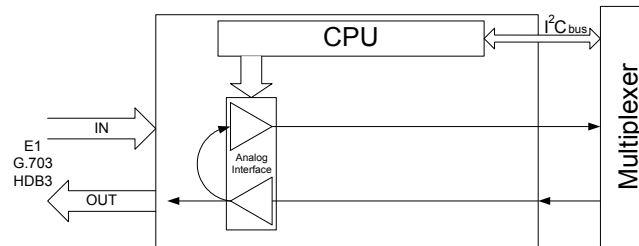
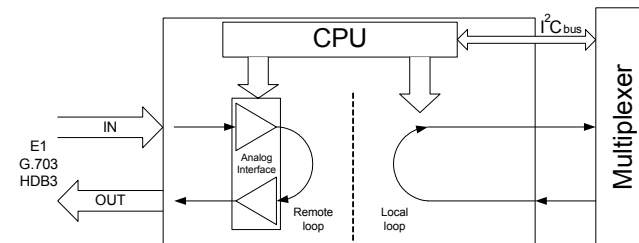

Figure 16. The E1 interface analog loopback: this mode is supported by E1 IDUs and modular IDUs complemented with E1 interface module
Figure 19. The E1 interface digital loopback, this mode is supported by the E1 interface module only
The E1 interface module supports analog and digital loopback modes as depicted in Figure 16, and Figure 19.
- Analog loop, - Figure 16,